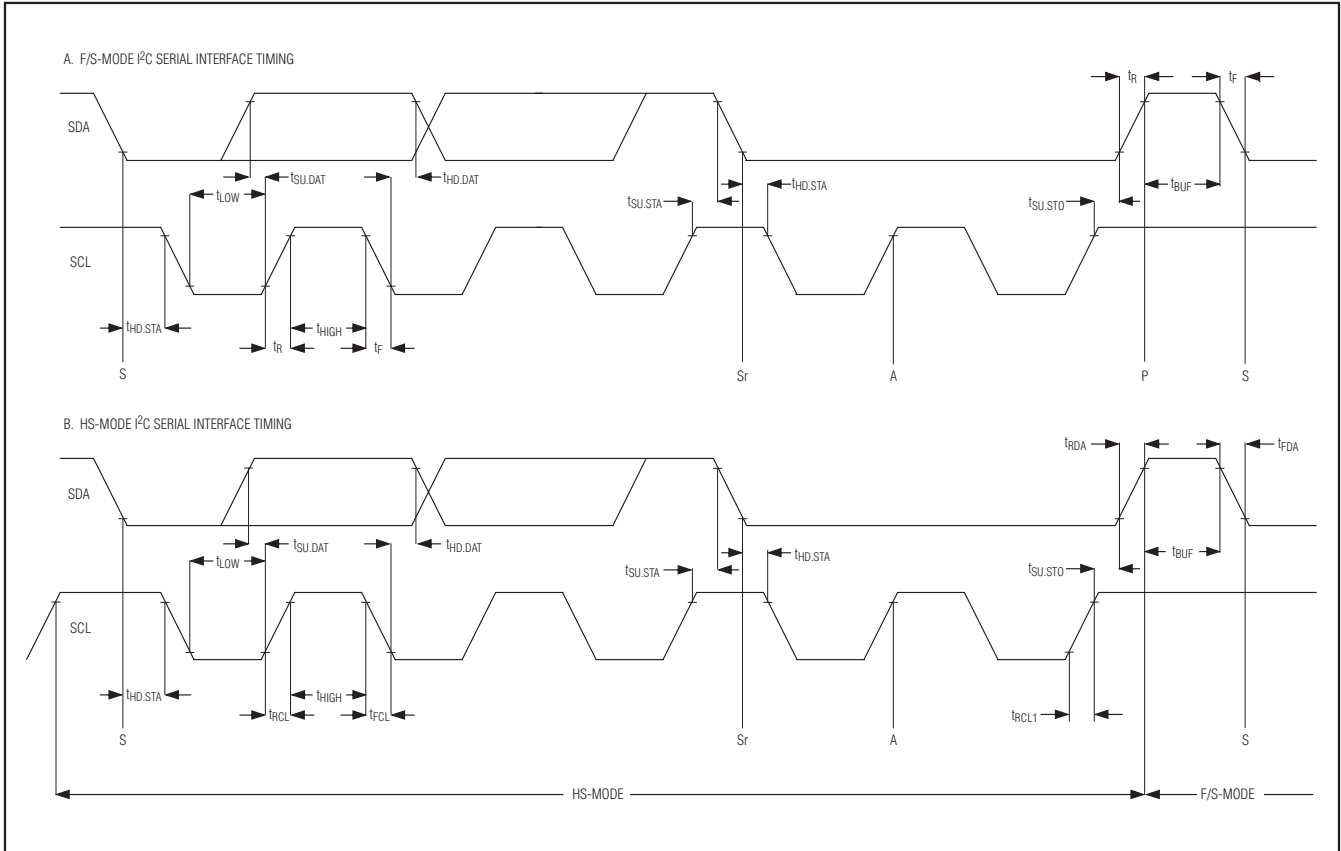

Figure 1. I2C Serial Interface Timing
**Note 12:** A master device must provide a data hold time for SDA (referred to  $V_{IL}$  of SCL) in order to bridge the undefined region of SCL's falling edge (Figure 1).
At power-up, the MAX1036-MAX1039 bus timing defaults to fast mode (F/S-mode) allowing conversion rates up to 44ksps. The MAX1036-MAX1039 must operate in high-speed mode (HS-mode) to achieve conversion rates up to 188ksps. Figure 1 shows the bus timing for the MAX1036-MAX1039's 2-wire interface.